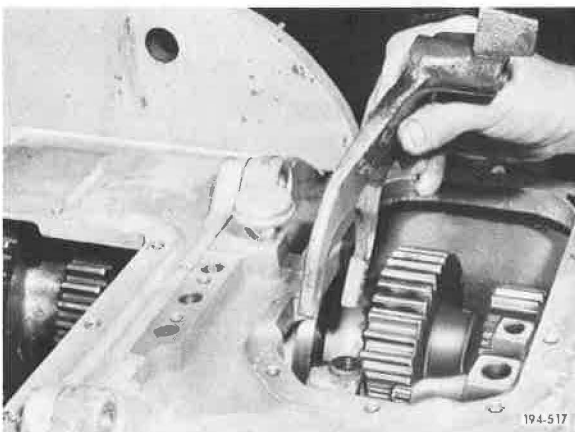

Figure 34. Removing Shift Fork
33. Remove first speed shift fork. See Figure 34.